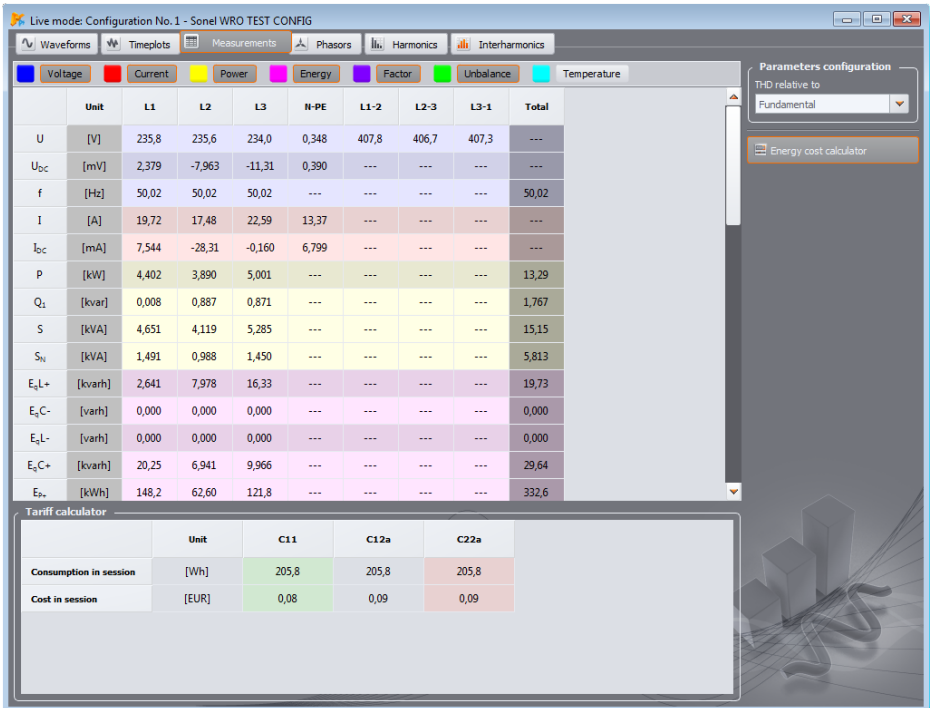

Fig. 49. Indications of phase and total values
**MEASUREMENTS** tab provides a view of a range of parameters of the measured mains. Fig. 49 presents an example of a screen that shows a summary table of values read from the analyzer and displayed in real time.
On the right side, in **MEASUREMENT** tab (see Fig. 49), a button is available for **ENERGY COST CALCULATOR**. After clicking the lower part of the window, a table with **TARIFF CALCULATOR** is displayed, which shows energy values of the current session (from opening tab **MEASUREMENTS**) and energy costs by three tariffs configured in the program settings. Energy is counted by the calculator as long as window **LIVE MODE** is open. The basis for calculating is total active energy input (**EP+**).